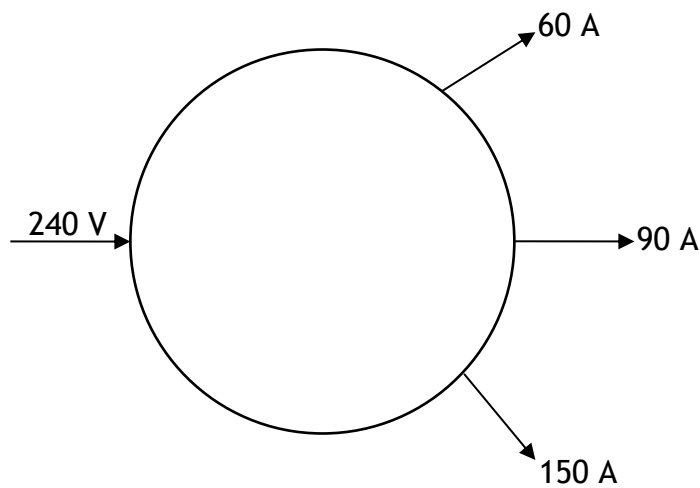

Fig Q1
1. Fig Q1 shows a ring main of total length 1000 m and resistance (go + return) of $0.002 \Omega/\text{m}$. The ring main is supplied with 240 V d.c. and the following loads are connected to the ring at distances measured clockwise from the supply point: